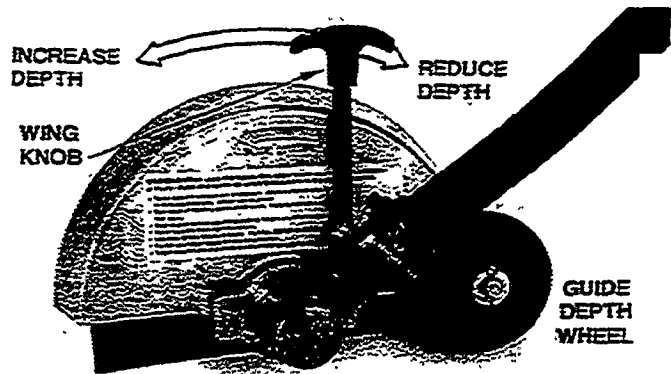

Figure 33
- Before using your edger you should adjust the depth of cut by rotating the blade shield to which the guide/depth wheel is attached (Fig. 33).
- To adjust the blade's depth of cut, first loosen the wing knob as shown (Figure 33).